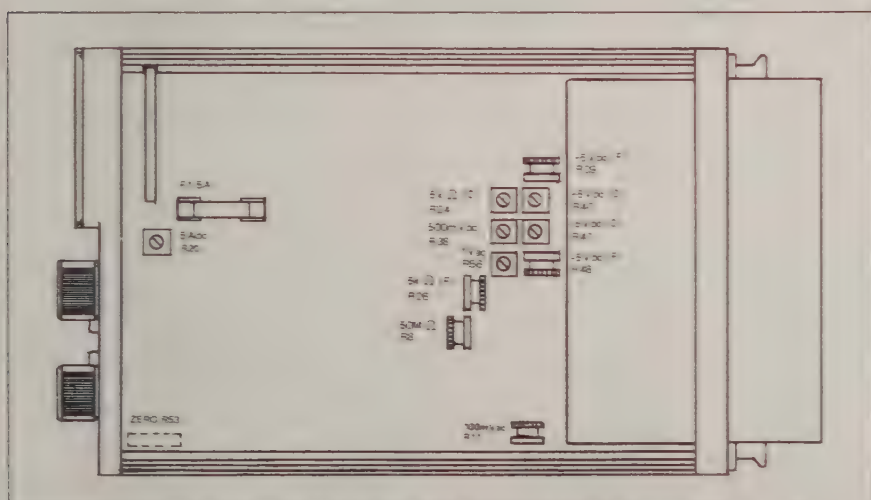

Figure 4-1. Calibration Adjustment Locations
4.5. CALIBRATION PROCEDURE (Figure 4-1)